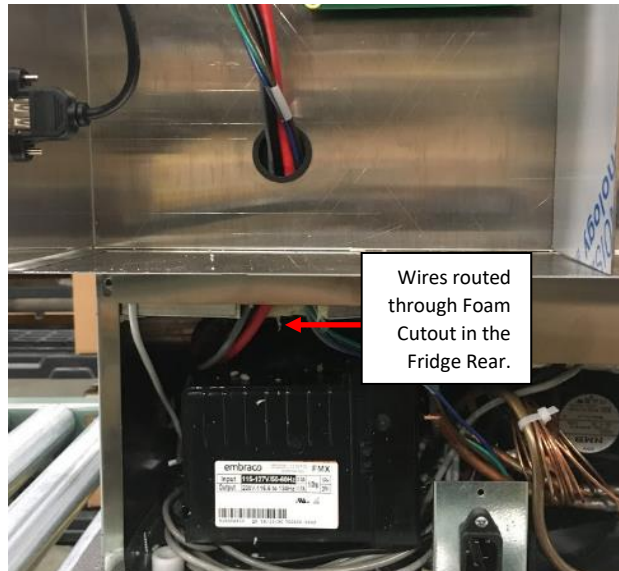

Figure L29: Wires routed through Foam Cutout in the Fridge Rear.
26. Ensure that all wires are routed through the cutout in the foam behind the Rear Enclosure, so it is not clamped between the Rear Enclosure and the NITCOM Refrigerator. **See Figure L29.**